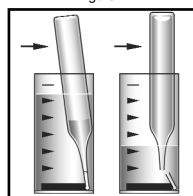

Figure 2
For CHEMetrics photometers, follow the **Setup and Measurement Procedures** in the operator's manual. For spectrophotometers, set the wavelength to 470 nm. A sealed ZERO ampoule is supplied in this kit for zeroing when the sample is colorless and not turbid. For improved accuracy with colored or turbid samples, Sample Zeroing Accessory Pack, Cat. # A-0503 is recommended. Using the sample cup, snap the tip of the A-0503 ampoule in the sample (see figure 2 below). Invert the ampoule to mix. Dry the ampoule and use it in place of the supplied ZERO ampoule to zero the instrument.
2. Place the Vacu-vial ampoule, tip first, into the sample cup. Snap the tip. The ampoule will fill leaving a bubble for mixing (fig. 2).